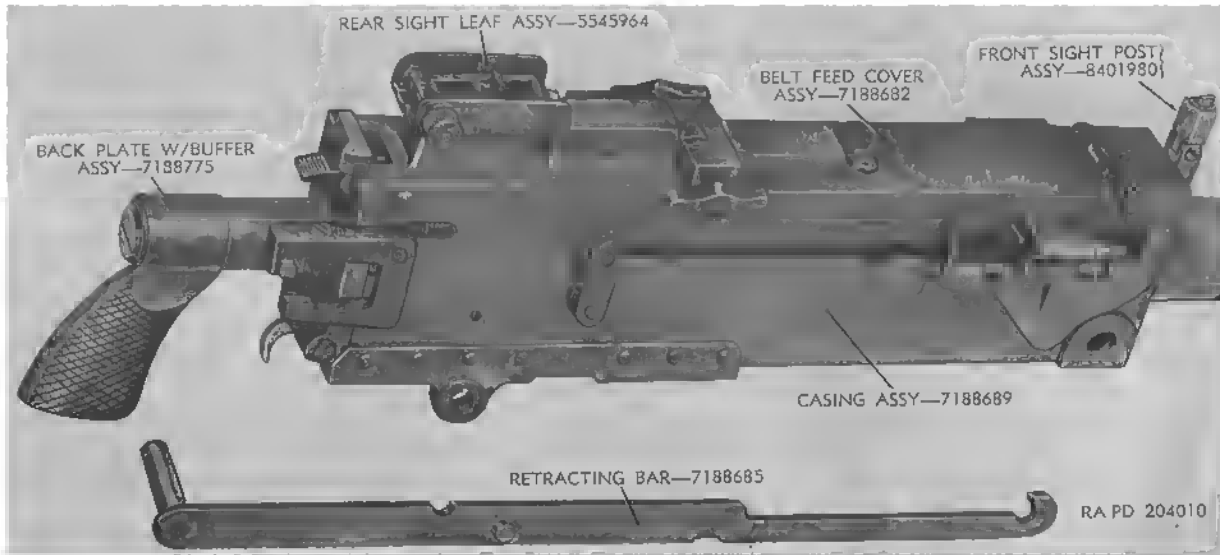

Figure 28. Casing group.
a. *Casing Group.* The casing group (fig. 28) consists of the rear sight group, front sight group, casing assembly, retracting bar group, front barrel bearing group, and cover detent pawl group.